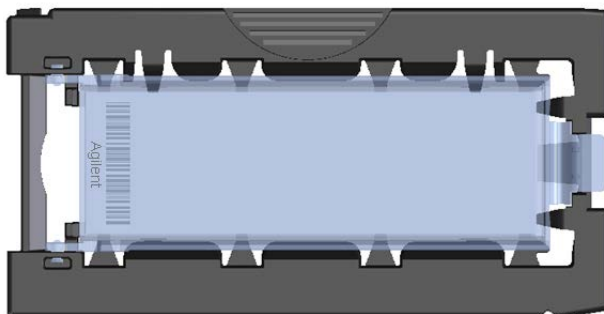

Figure 26 Slide inserted in slide holder – cover closed
- f Close the plastic slide cover, gently pushing on the tab end until you hear it “click”. See Figure 26. Make sure that the slide holder is completely closed.